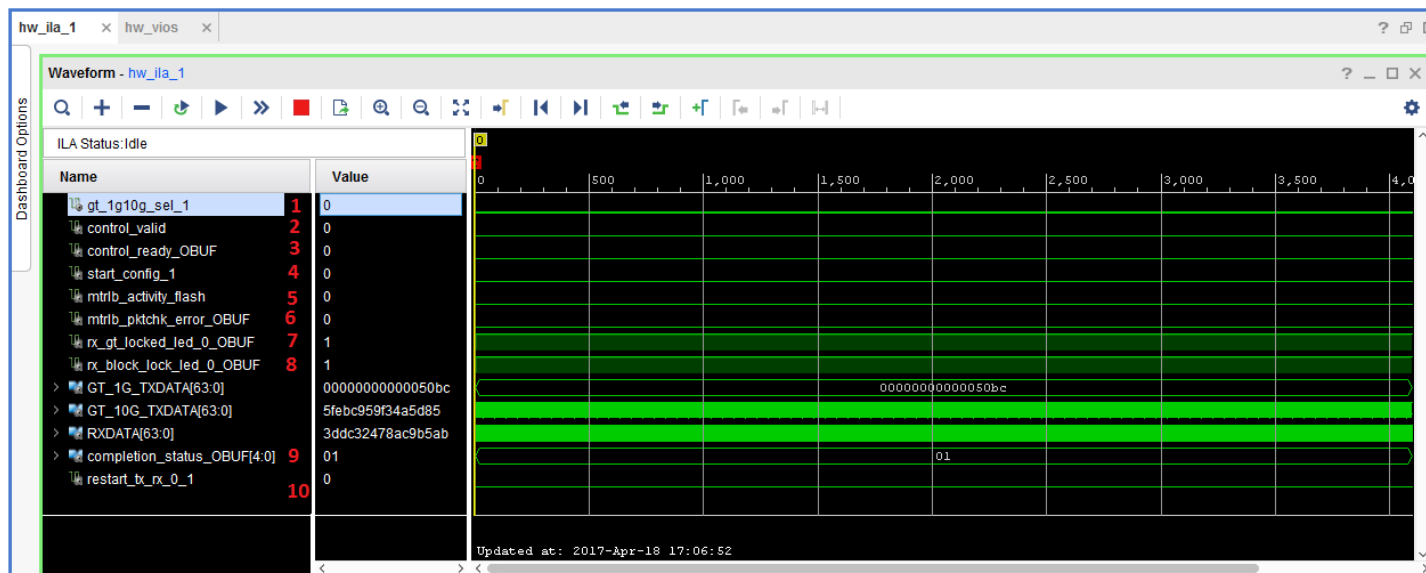

Figure 20: 10G - ILA Window
- Click the **Run trigger for this ILA core** icon in the ILA tab. The ILA waveform window is displayed as shown in Figure 20.
- Observe the `rx_gt_locked_led_0` in ILA (see #7 in Figure 20). The value 1 indicates that the GT has been locked.
- Observe the `rx_block_lock_led_0` in ILA (see #8 in Figure 20). The value 1 indicates that the RX block lock has been achieved.
- Observe the `completion_status` in ILA (see #9 in Figure 20). This signal represents the test status/result.